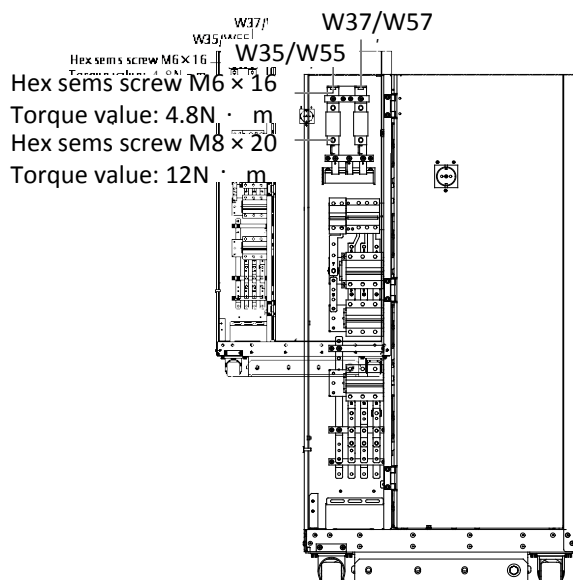
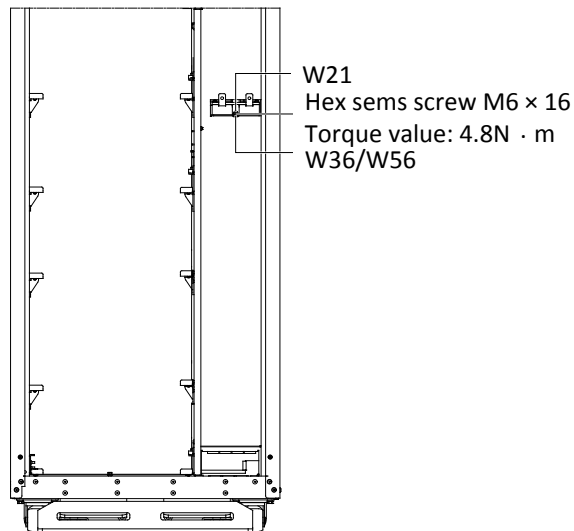

Figure 8-4 Installing internal battery fuse and battery cables (front view)
Figure 8-5 Installing battery cables (rear view)
a) Open the cabinet front door, remove cover plate of the switches, and then install the battery fuses on corresponding positions shown in Figure 8-4.
b) Remove the side panel and back door of the cabinet, and then install W35, W36, W37 (38-block internal battery kit) or W55, W56, W57 (32-block internal battery kit) on corresponding positions according to Figure 8-4 and Figure 8-5.